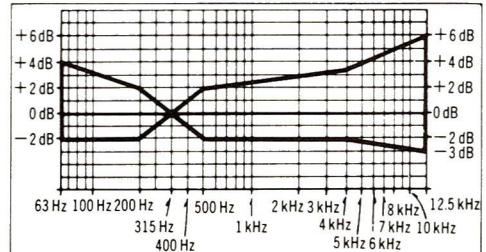

Fig. 9
6. Make sure that the measured value is within the range specified in the frequency response chart (shown in fig. 9).